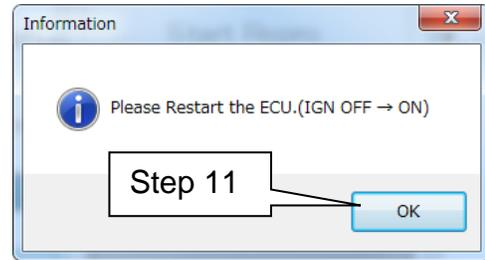
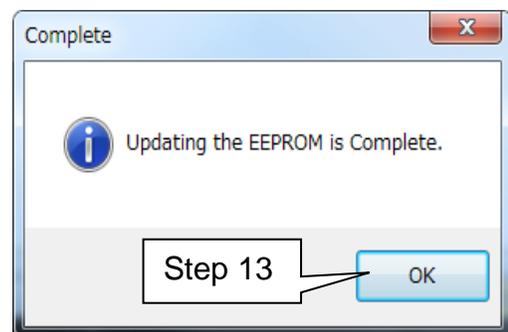

Figure 16
Figure 18
- After selecting OK in Figure 16, the OCS reprogramming will likely complete items 5 through 7 quickly (see "Complete" screen, Figure 18 below).
12 When this screen displays (Figure 18), OCS reprogramming is complete.